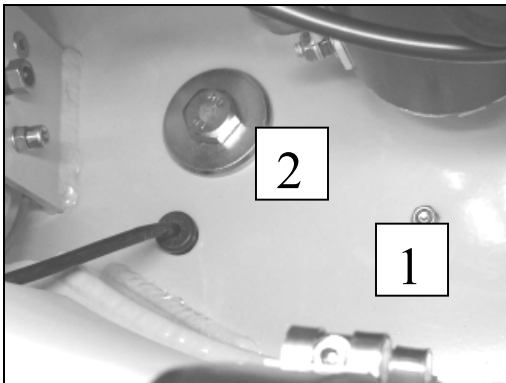

Fig. 53
- Unscrew bolt 1 securing the clutch clip (Fig. 53)